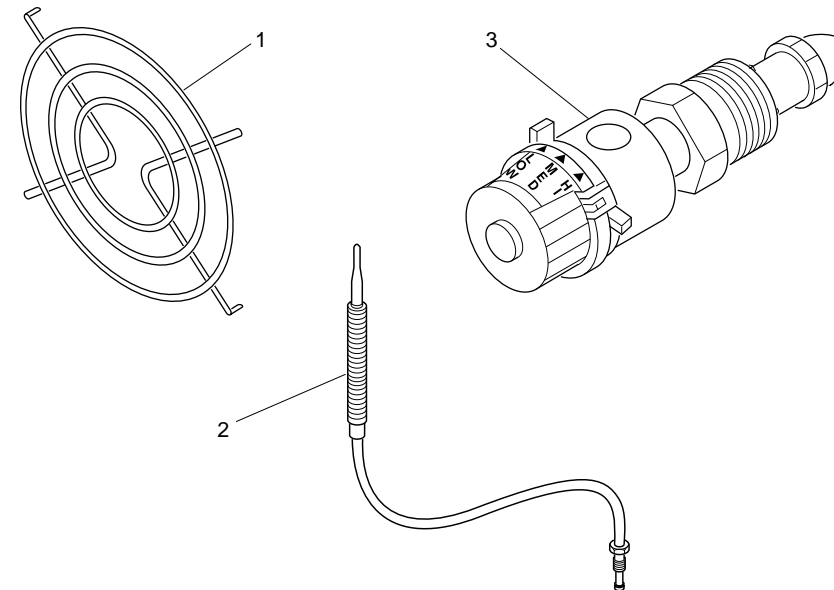

Figure 3
- WARNING: Stand to the side of the heater while lighting. Do not stand or have any part of your body in front of heater while lighting.** Locate ignition hole in underside of burner (see Figure 3). Hold a lit match under ignition hole. **CAUTION: Do not insert match into air inlet holes in mixing tube.** Push in the safety shutoff valve plunger (see Figure 3). **WARNING: Do not push in safety shutoff valve plunger before inserting lit match.** Burner should light. Mesh screen on burner glows red when lit. After burner is lit, continue holding in safety shutoff valve plunger (about 10 to 30 seconds) until heater stays lit.